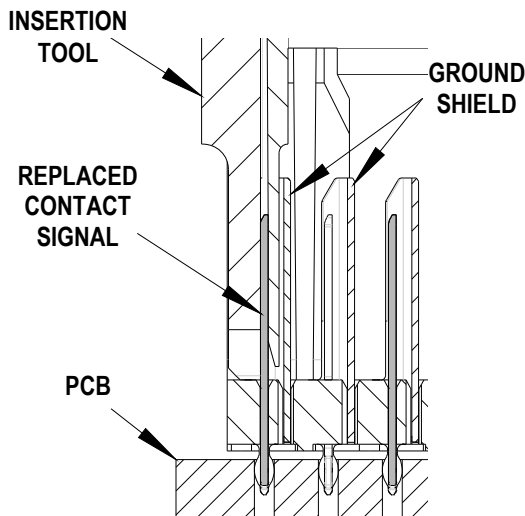

Figure 5-2
4. Make sure the signal contact is in the correct orientation. Check the column where the repair signal contact is being replaced and compare the column to the contact signal on the insertion tool. The two should be the same. The adjacent column is oriented in the opposite direction. See Figure 5-2.